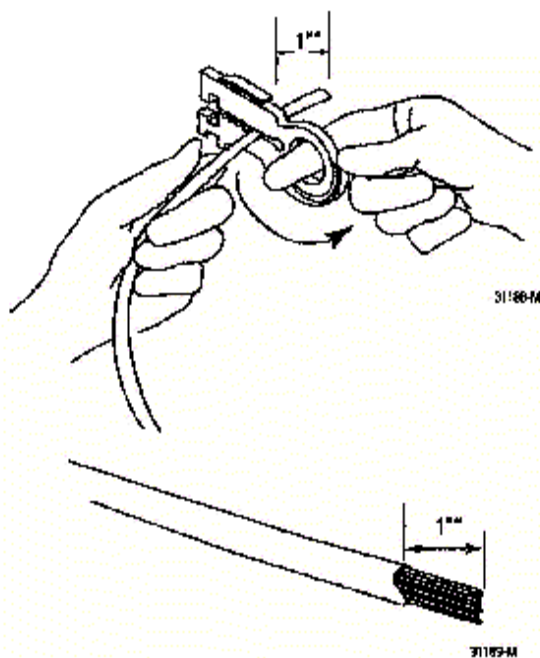

Figure 5.7 Stripping ScTP cables.
1. Preparing the shield to provide 360 degrees of coverage over the conductors and being careful not to cut the shield, drain or insulation of the wires, strip back 1 inch of jacket using the jacket strip tool as shown in Figure 5.7. If you damage the shield, drain or insulation, cut off the end of the cable and start over.